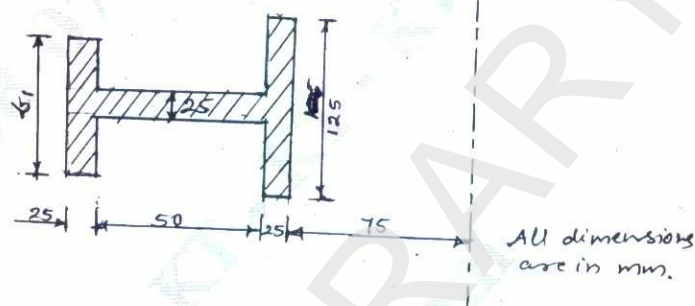

Fig.Q1(a)
- 1 a. Determine the value of ' b_1 ' of a unsymmetrical I-beam cross-section of a curved beam shown in Fig.Q1(a) such that the extreme fibre stresses due bending are numerically equal. (12 Marks)